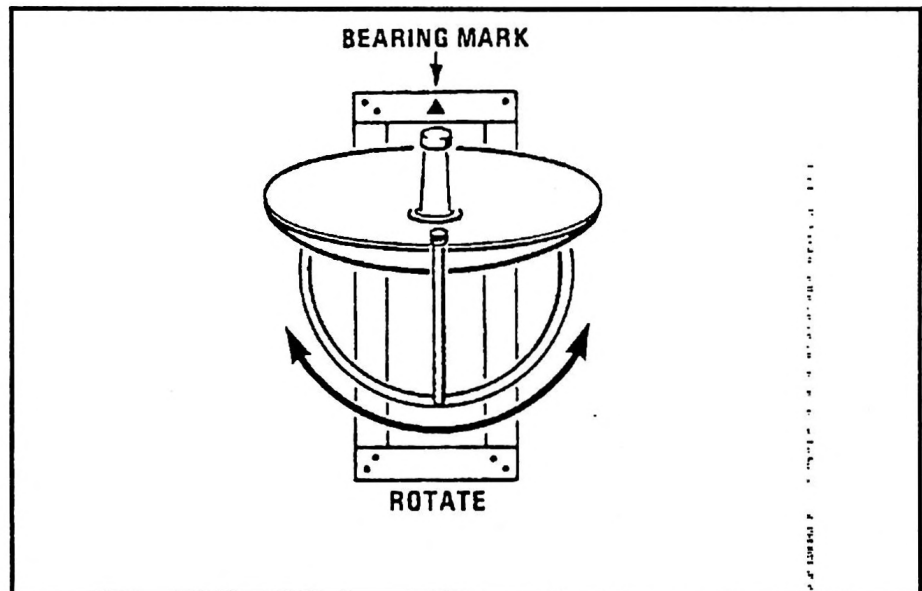

Figure 4-15. Preliminary Azimuth Adjustment
3. Stand directly behind the antenna. Refer to Figure 4-15 and perform the following instructions: